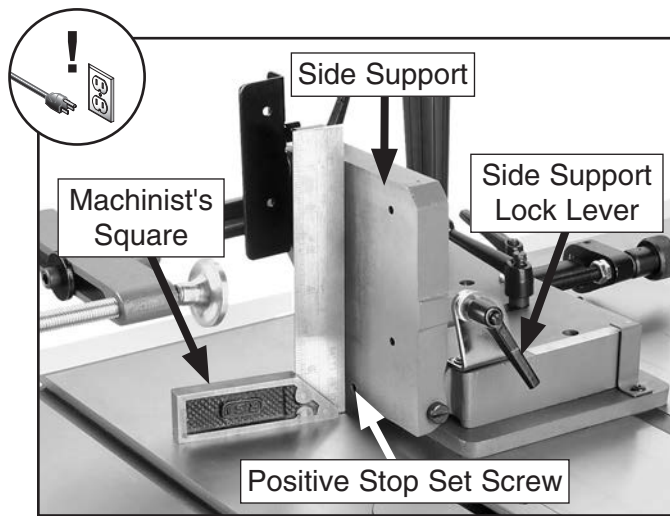

Figure 16. Adjusting the side support perpendicular to the saw table.
5. Thread positive stop set screw far enough into side support (see **Figure 16**) so that it will not interfere with the next step.
6. Position machinist's square flat on table and up against tenoning jig side support, as shown in **Figure 16**.
7. Loosen support lock lever, position side support flat against machinist's square, then, without moving support, re-tighten lock lever (see **Figure 16**).